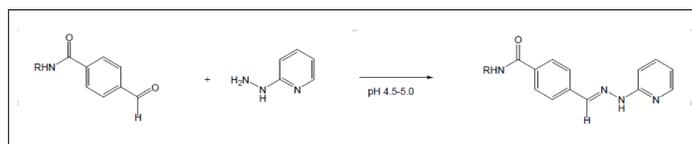

Figure 2: Colorimetric reaction used to quantify the number of 4FB linkers on a biomolecule.
1. The molar substitution ratio (MSR) can be determined using a colorimetric reaction outlined in Figure 2. Addition of 2-hydrazinopyridine to a 4FB-modified biomolecule yields a bis-aryl hydrazone that absorbs at 350 nm. Refer to the 4FB-Protein MSR Calculator or the 4FB-Oligonucleotide MSR Calculator as well as the protocol that is appropriate for your lab equipment: 4FB Protein MSR Instructions, or 4FB Oligo MSR Instructions.